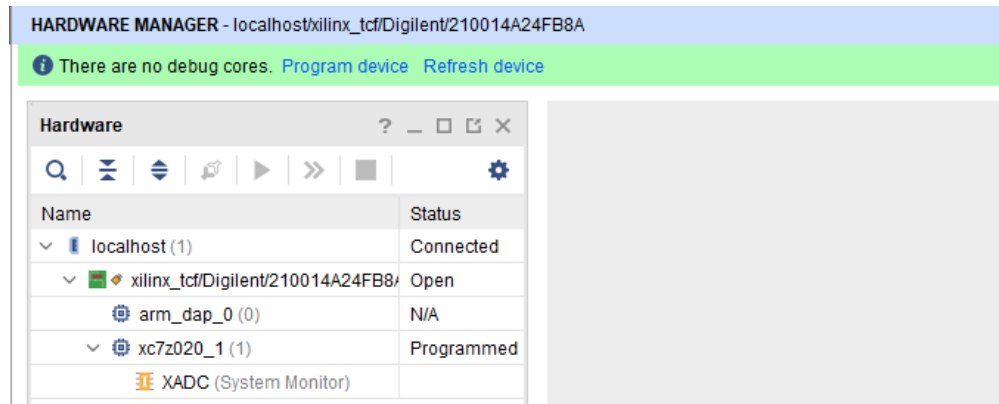

Figure 8: Program Device once Connected
9. Once connected, the auto connect banner along the top will change to tell you there are no debug cores connected. This isn't an issue - our debug core is built-in to the design so it will connect once you program the device. Click Program device (i.e., Figure 8).